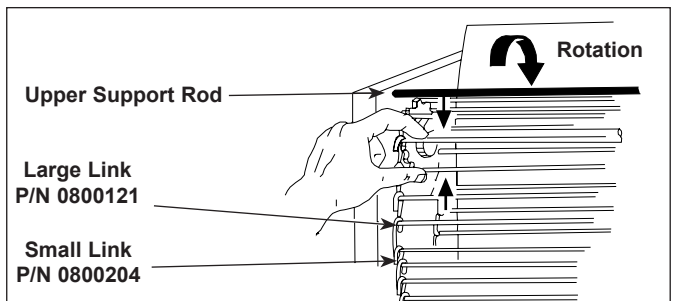

Figure 10. Removing Conveyor Belt Chain
9. Disconnect the Conveyor Belt Chain by squeezing any two links together and unhooking both ends one link (Figure 10). Needle-nose pliers may be used.
5. Disconnect the Conveyor Belt Chain by squeezing any two links together and unhooking both ends of one link (Figure 10).